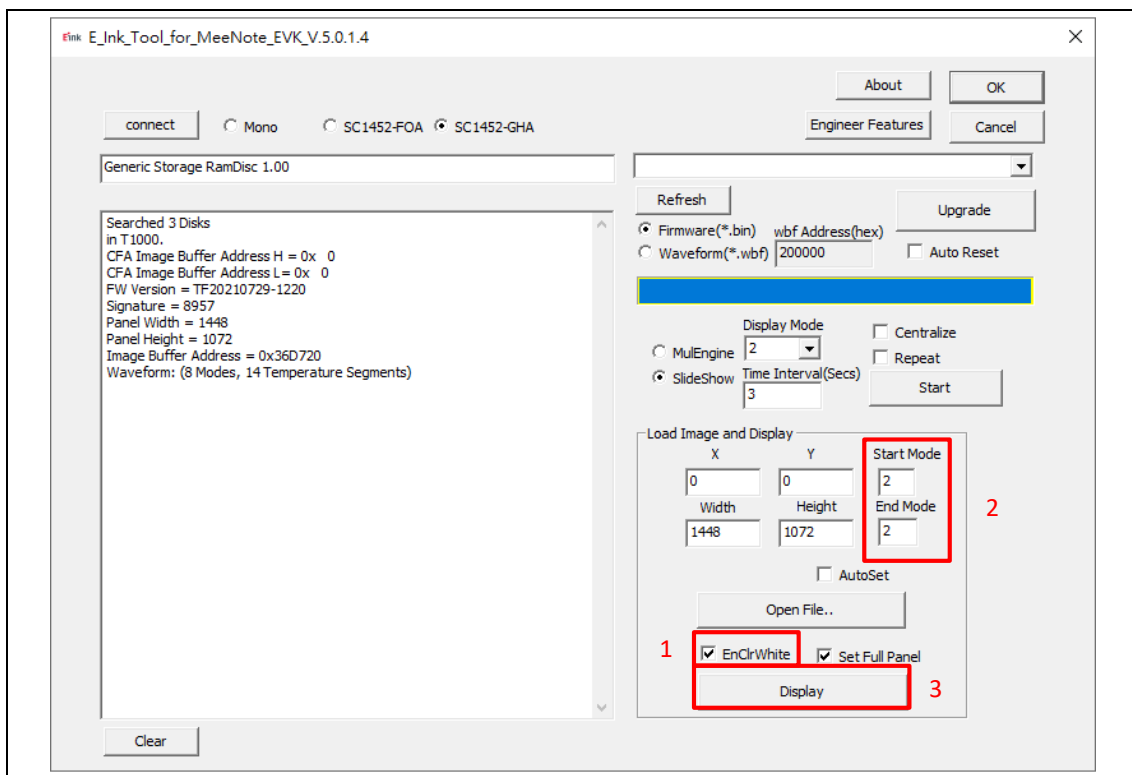

Figure 3.4
(1) How to minimize artifact
- Execute E_Ink_Tool_for_MeeNote_EVK_V5.0.1.4.exe and select SC1452-FOA or SC1452-GHA (refer to Fig 3.4)